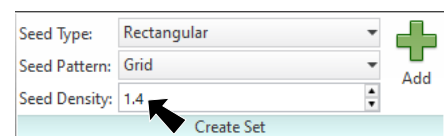

Fig. 53
Step 6. In the Create Set panel of toolbar set **Seed Density 1.4**, Fig. 53.